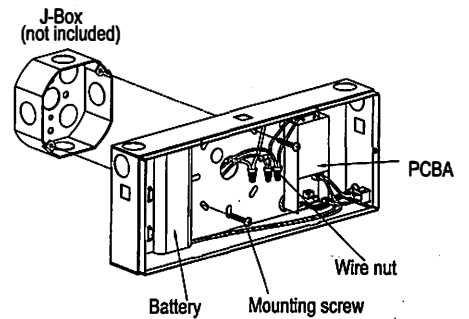

Fig 2
3. Feed AC supply leads through the center hole into the housing, Mount fixture to the J-Box using the (2) 1" long 8-32 screws (see Fig 2).